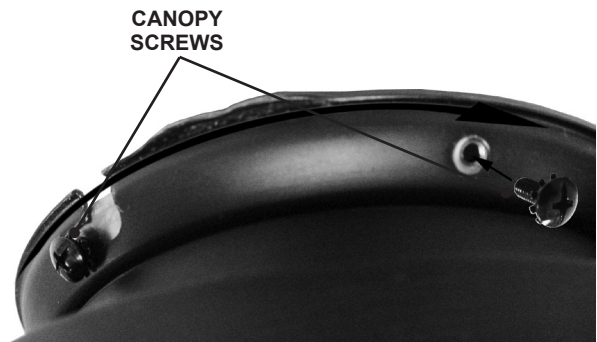

Figure 7
Step 2i. Install the other two canopy screws by holding the fan body cover to the ceiling mounting plate as shown in Figure 7. Tighten all four screws until hand tight.